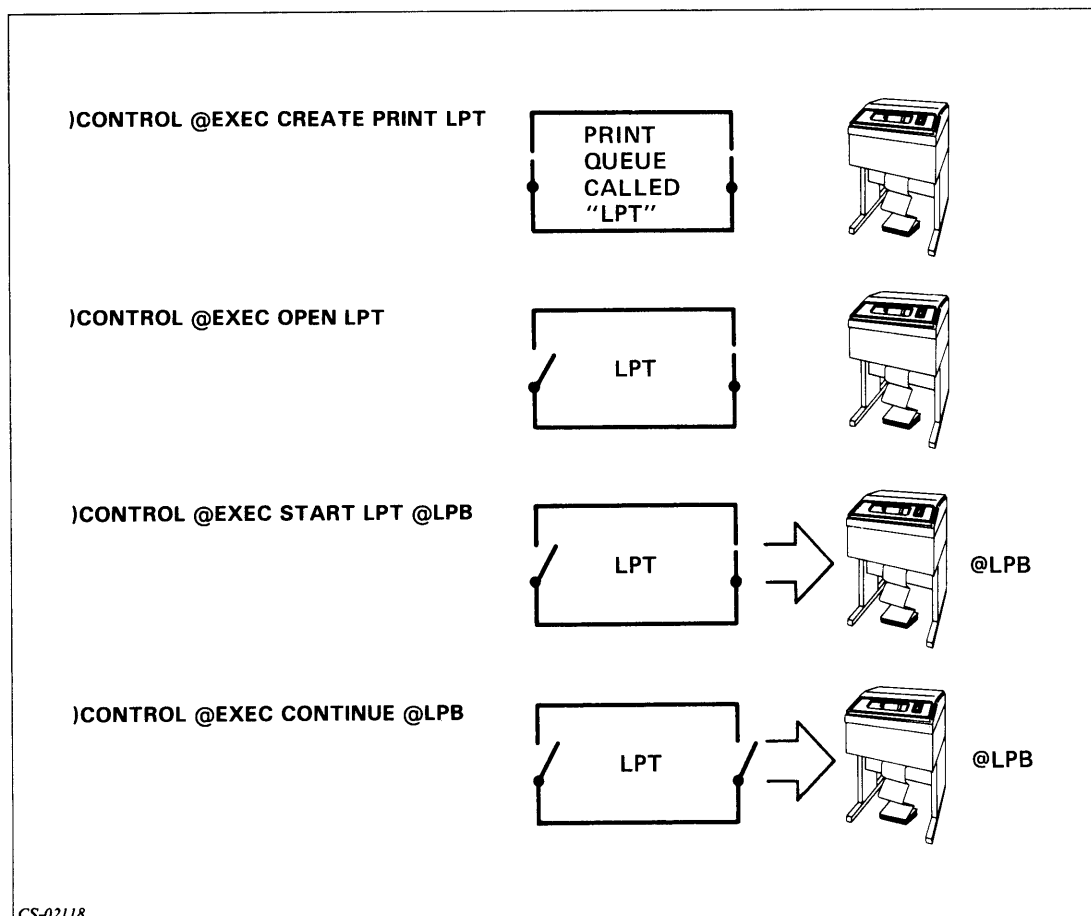

Figure 11.15 Module 11: Quiz Answers
3. Compare your answer to Figure 11.15.